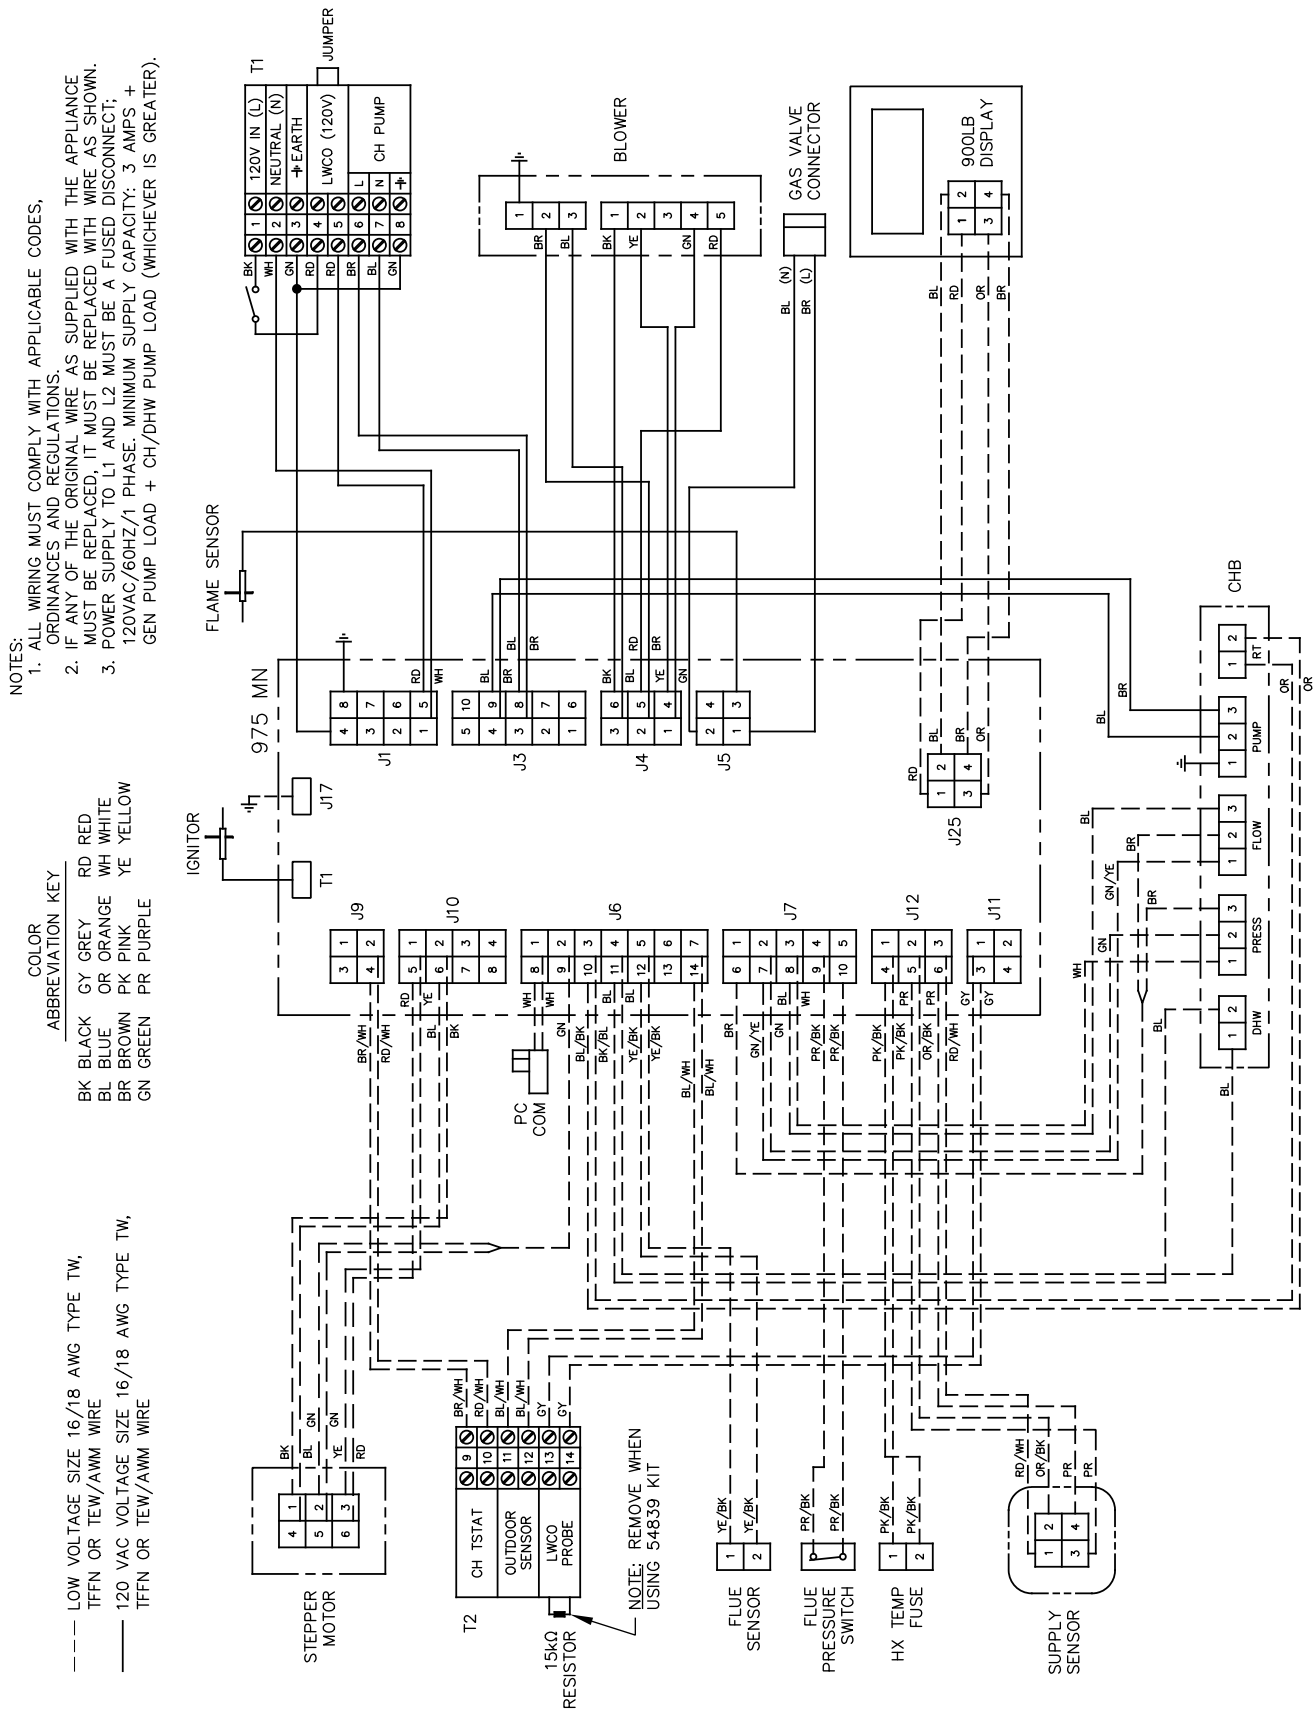

Figure 7.4: Wiring Schematic and Connection
3. Figure 7.4 shows customer connections and wiring schematic for the Series PBC™ boiler.
Figure 7.4 also shows all internal wiring and sensors for Series PBC™ boilers.